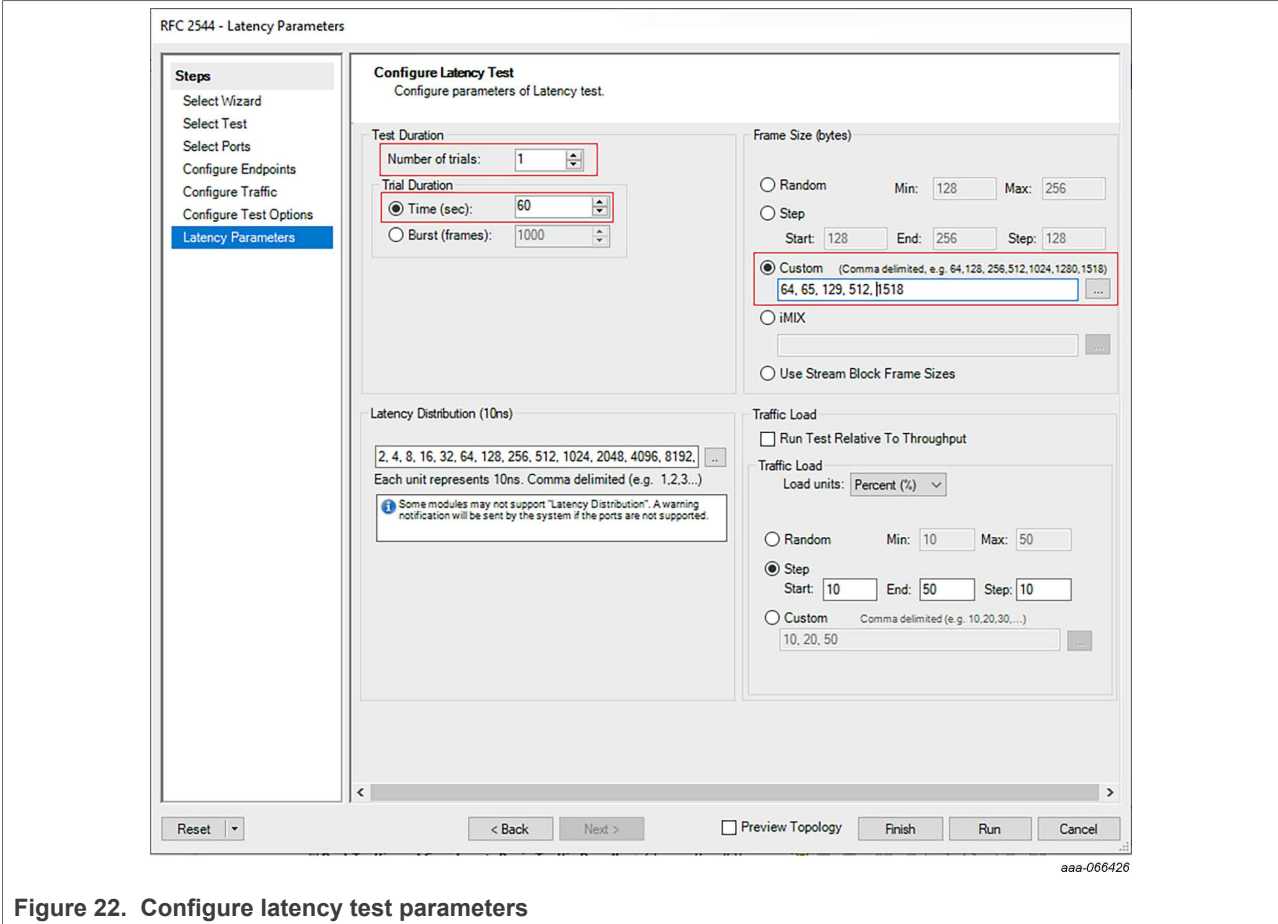

Figure 22. Configure latency test parameters
- Configure the parameters of latency test as given in Figure 22. these parameters can be modified as needed.